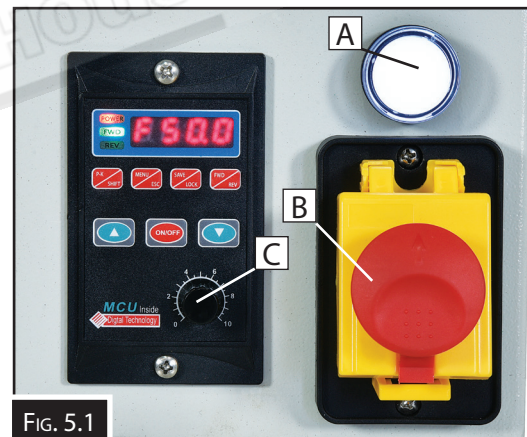

FIG. 5.1
The machine is fitted with an AC variable speed inverter motor which is controlled in three ways. (Fig.5.1)
1. **ON/ OFF Switch (B).** Switches ON or OFF the power circuit in the machine.
2. **Power Lamp (A).** Is illuminated when the power is connected to the machine
NOTE: Motor speed control (C) is the AC inverter and the parameters are set in the factory and locked. The parameters should only be changed by a factory service engineer. (Fig.5.1) You use this to change the speed.